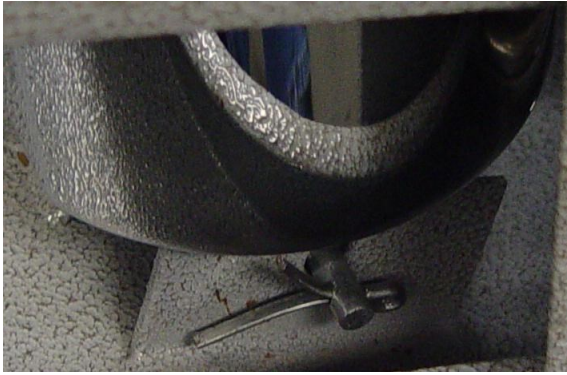

Figure 1
Step 3: Remove the cotter pin and retaining bolt from the frame assembly. See Figure 1.